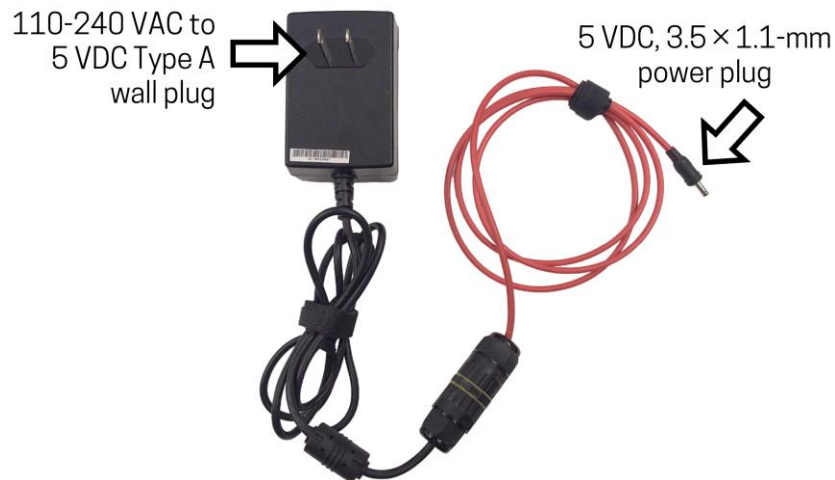
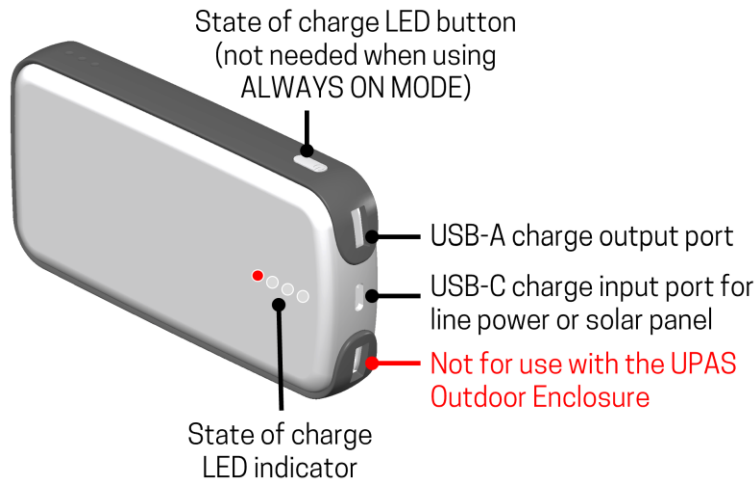

Figure 5. Line power adapter for the UPAS Outdoor Enclosure with key features labeled.
Figure 6. The first version of the Voltaic V75 external battery pack with key features labeled.
The line power adapter can be used to provide line power to a UPAS (and, optionally, a Voltaic external battery pack and/or cooling fan) that is installed in an Outdoor Enclosure (**Figure 5**). The line power adapter accepts 110-240 VAC input from an electrical outlet and converts it to a 5 VDC (and up to 4 Amp) output at the 3.5 × 1.1-mm barrel jack plug. The line power adapter is assembled by AST and facilitates safe charging and operation of electronics installed in a UPAS Outdoor Enclosure. To avoid damaging your product(s), use only the line power adapter provided by AST with the Outdoor Enclosure.
- 2 When using line power and an external battery, plug the USB-C cable into the USB-C charging port on the external battery (**Figure 6**). Then, use the included USB-A to micro-USB cable to connect the USB-A output port on the external battery to the micro-USB port on the UPAS.
1. The first version was sold by Voltaic **before February 2024**. These batteries included a single USB-C charge input port on the top end of the battery pack as shown in **Figure 6**. These batteries can accept charge from a wall outlet or solar panel (Voltaic P110 or P120) while installed in the UPAS Outdoor Enclosure. These batteries can be identified by the sixth line of text in the marking on the back of the battery: “USB C: 5-6V/2A Input” (see **Figure 7**).
A Voltaic P110 10-Watt, 6-Volt solar panel can be secured to the standard mounting bracket at a fixed angle using five included 8-mm-long M3 × 0.5 mm screws. The plug on the solar panel must be connected to a Voltaic external battery pack via the 5 VDC external power port on the Outdoor Enclosure. Plug the solar panel into the 5 VDC external power port; then, connect the USB-C cable on the inside of the enclosure to the USB-C charge input port on the top end of the Voltaic battery (see Figure 6). Finally, connect the USB-A charge output port on the Voltaic battery to the micro-USB port on the UPAS using the included silver USB-A to micro-USB cable.
- 3 Plug the USB-A end of the silver USB-A to micro-USB cable into the USB-A charge output port on the Voltaic battery. If the Voltaic battery will be charged using line power or a solar panel, connect the USB-C cable on the inside the enclosure to the USB-C charge input port on the Voltaic battery. (Note: The ports on the Voltaic battery are illustrated and labeled in **Figure 6**.)
- 2 **Using line power:** While the Voltaic battery is installed in the UPAS Outdoor Enclosure, connect the USB-C charging cable on the inside of the enclosure to the USB-C charge input port on the top end of the battery (see **Figure 6**) and then connect the 5 VDC external power port on the enclosure (see **Figure 1**) to an electrical outlet using the line power adapter (**Figure 5**).
- 3 **Using a solar panel:** While the Voltaic battery is installed in the UPAS Outdoor Enclosure, connect the USB-C charging cable on the inside of the enclosure to the USB-C charge input port on the top end battery (see **Figure 6**) and then connect the 5 VDC external power port on the enclosure (see **Figure 1**) to a solar panel. Note that only the first version of Voltaic V75, V50, and V25 batteries—which were sold by Voltaic before February 2024 and sold by AST until June 2025—can be charged using a solar panel while installed in the Outdoor Enclosure.